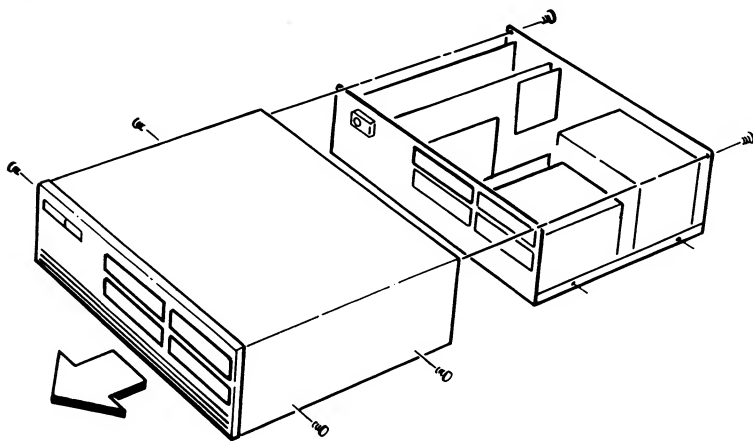

Figure 5-1. Removing the Cover
2. Refer to Figure 5-1 and remove the six screws and set them aside.